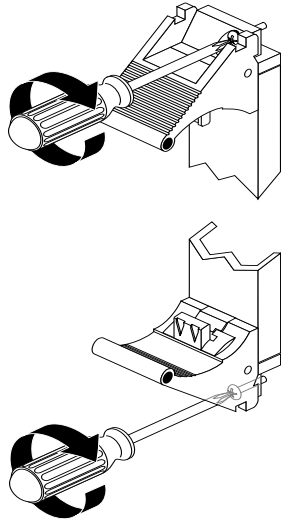

FIGURE 5-7 Tightening the Ejection Lever Captive Screws
8. Using a No. 2 Phillips screwdriver, tighten the two captive screws inside the card's ejection levers, one on top and one on the bottom (FIGURE 5-7).
- 12. Using a No. 2 Phillips screwdriver, tighten the two captive screws inside the card's ejection levers, one on top and one on the bottom (FIGURE 5-7).**